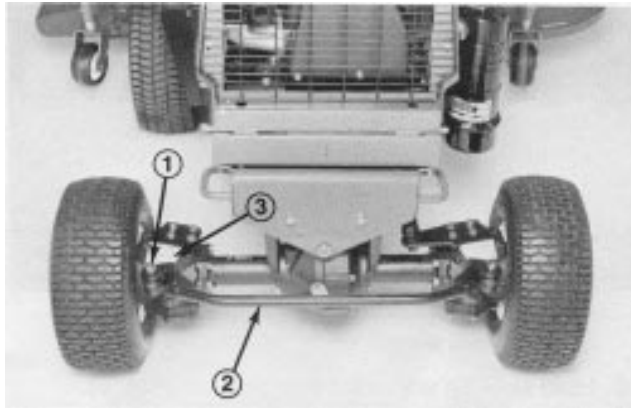

Figure 1
2. Position tires so ball joint ends align with holes in mounting brackets (Fig. 1). Secure ball joints to brackets with nuts and cotter pins. Torque nuts to 55-80 ft-lb (75-110 N·m).